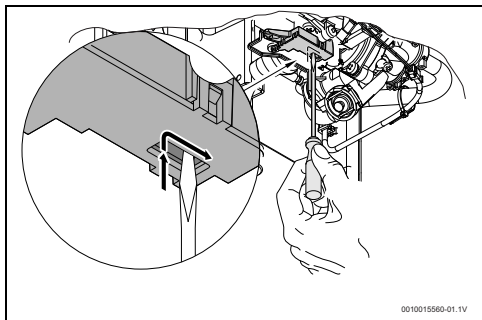

Fig. 27 Rearme do micro-interruptor
- Posicionar o micro-interruptor conforme Fig 27.